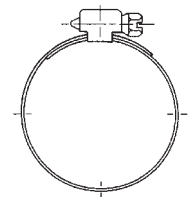

Figure 1
- This clamp (figure 1) attains high torque levels and distributes torque evenly. Localized force beneath the housing may cause premature deformation of the nipple. Extrusion of rubber through the slots in the band may occur at high torque levels.